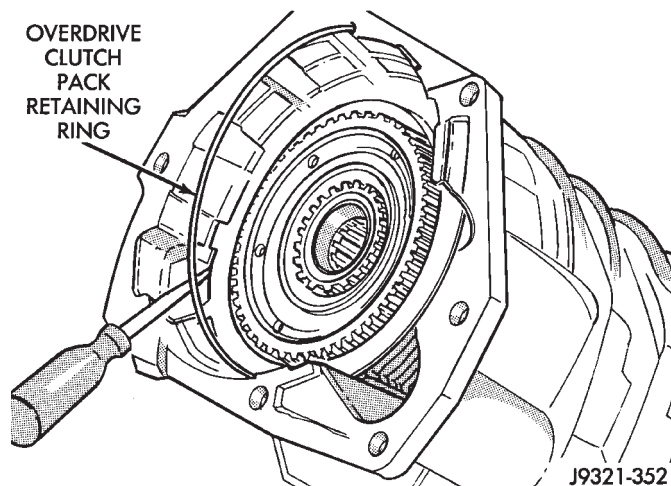
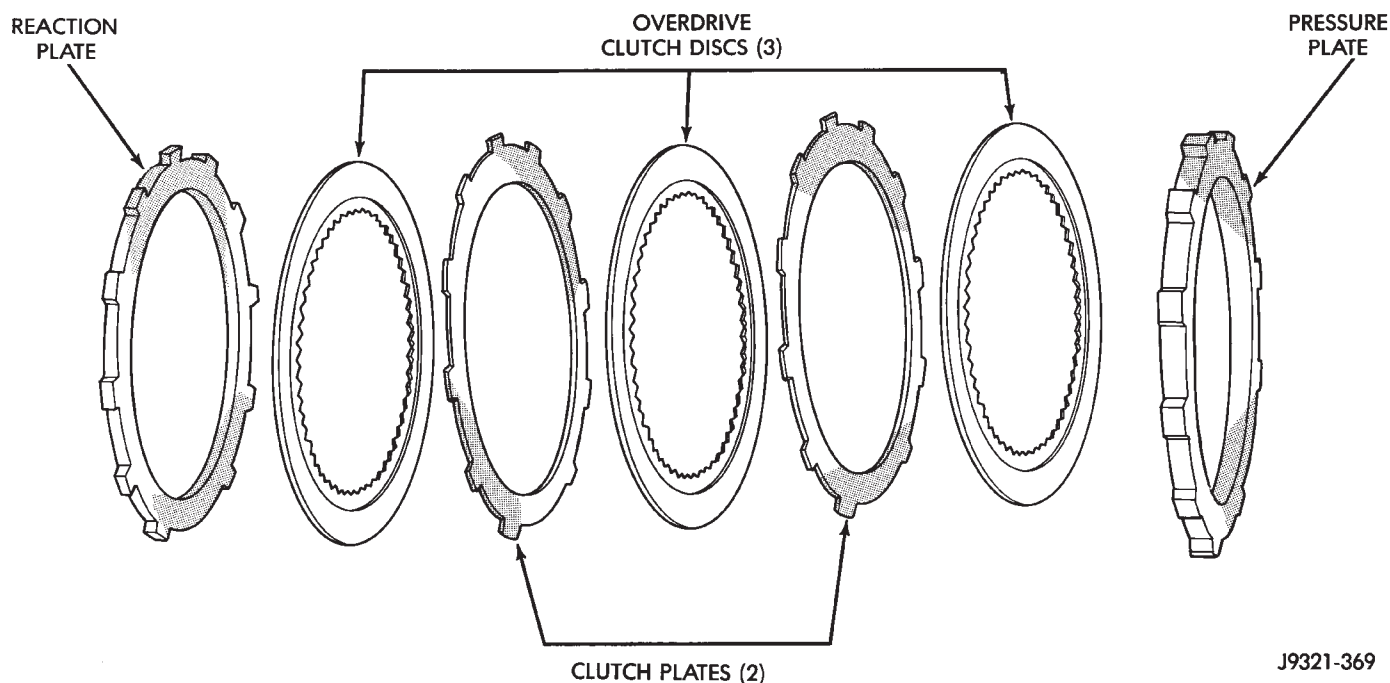

Fig. 309 Overdrive Clutch Pack Retaining Ring Installation
Fig. 308 Overdrive Clutch Components
- (3) Assemble overdrive clutch pack (Fig. 308).
- (4) Install overdrive clutch reaction plate first. **Note that reaction plate is thinner than pressure plate.**
- (5) Install first clutch disc followed by first clutch plate. Then install remaining clutch discs and plates in same order.
- (6) Verify clutch pack. 3 clutch discs, 2 steel plates, 1 reaction plate and 1 pressure plate are required.
- (7) Install clutch pack pressure plate. Note that pressure plate is thickest plate in clutch pack.
- (8) Install clutch pack wire-type retaining ring (Fig. 309).